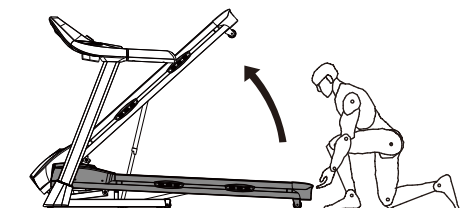

Figure 1
1. Fold the treadmill: Folding the treadmill to save space. Before folding, turn off the power switch, unplug the power plug, and lift the treadmill by hand until the treadmill is stuck into place. (Figure 1)
Bent your knees slightly and slowly bend your body to relax your back and shoulders. And try to touch your toes with your hands. Hold for 10-15 seconds, then relax. Repeat 3 times. (see figure 1)